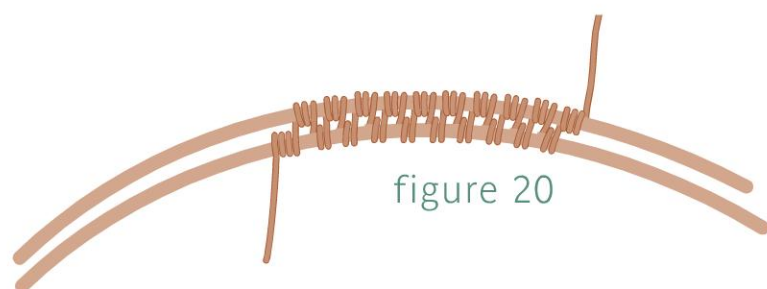

figure 20
- 7 Continue weaving, repeating Steps 5 and 6 (Figure 20). As you near the end of the frame wires, push the weave to the left to continue weaving.